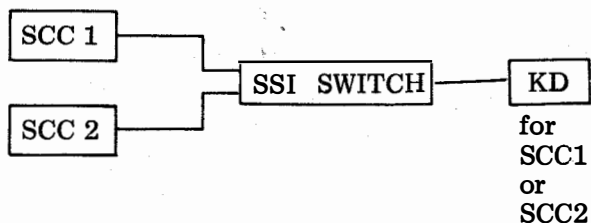

Fig. 1 -- Example of use
1.01 This specification describes a 452190 SSI Switch Assembly as an accessory for 4540 Clustered Station arrangements. The 452190 SSI Switch Assembly provides the operator of a Keyboard-Display (KD) access to two independent 45C340 Station Cluster Controllers (SCCs). Both SCCs must be located within 5280 cable feet of the KD or 2000 cable feet of a printer. See Fig. 1.
1.02 The SSI switch configuration shown in Fig. 1 is expected to be the one used most often. The SSI switch assembly can also be used in other configurations wherever an SSI cable is switched between two other SSI cables.